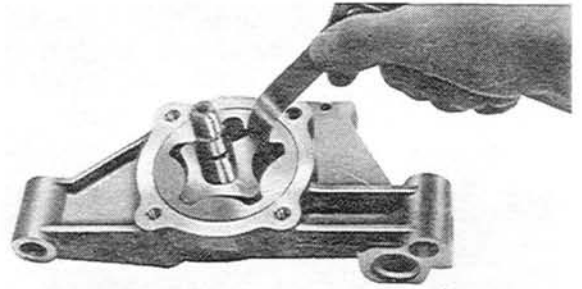

Fig. 2-4 Checking of clearance between rotors
1. Check the clearance between the lobes of the rotors with a feeler gauge as shown in Fig. 2-4. If the clearance is more than 0.25 mm (0.010 in), replace both rotors.